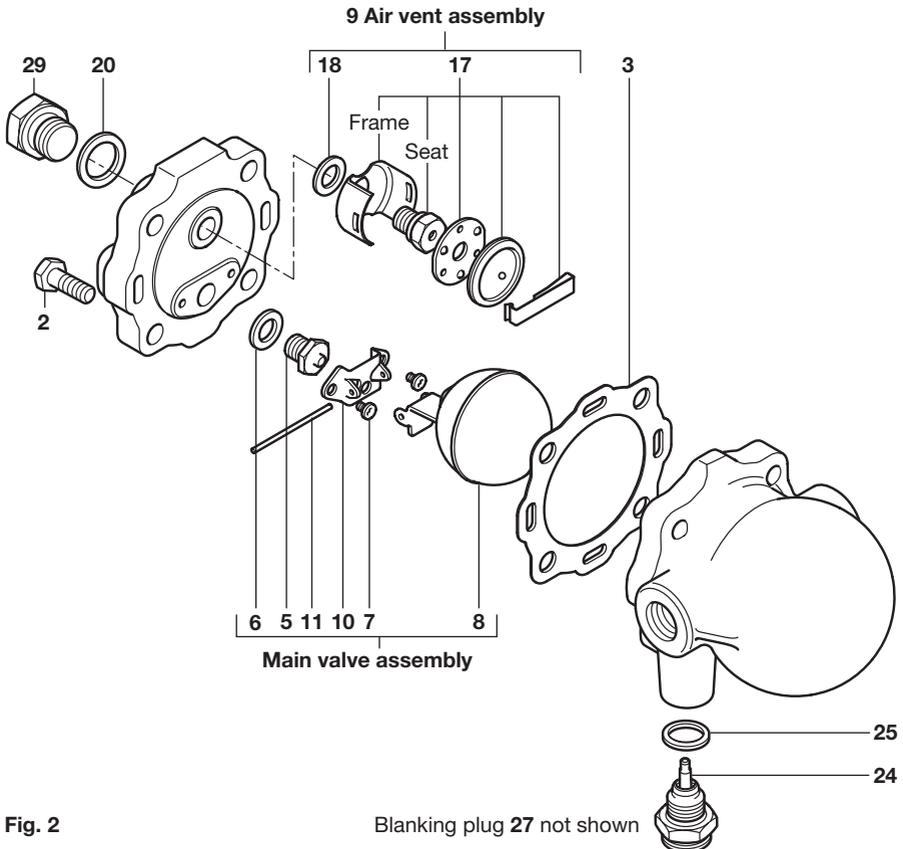

Fig. 2
Warning: The cover gasket (item 3, Figure 2, page 9) contains a thin stainless steel support ring which may cause physical injury if not handled and disposed of carefully.